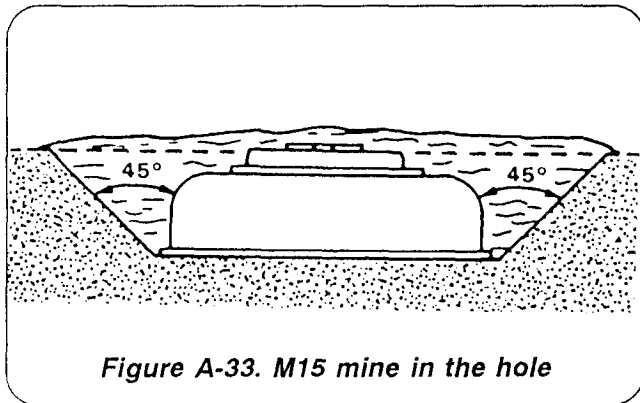

Figure A-33. M15 mine in the hole
- b. Dig the sides of the hole at a 45-degree angle to prevent vehicles from bridging the mine (Figure A-33).